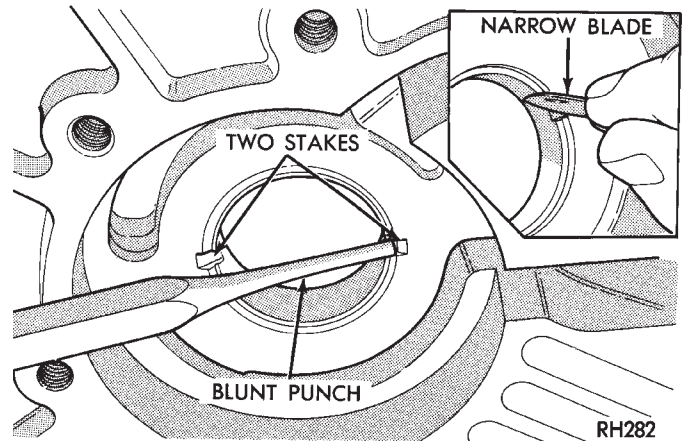

Fig. 152 Staking Oil Pump Bushing
(3) Stake new pump bushing in two places with blunt punch (Fig. 152). Remove burrs from stake points with knife blade afterward.